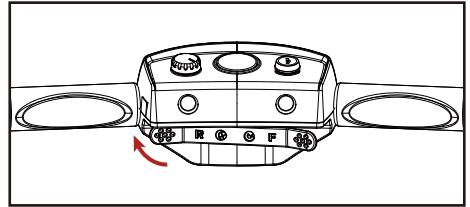

Figure 3 : Reverse Throttle Operation
- To move the scooter backward, push the lever inward with your left thumb(see Figure 3) .